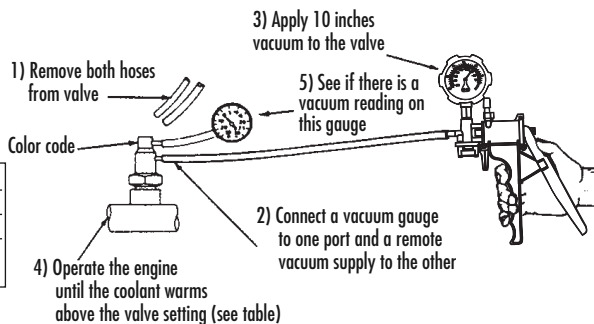

FIGURE 13: TESTING THE TWO-PORT PVS
1) Apply 10" Hg of vacuum to the bottom port of the valve with your vacuum pump and measure the results with a second vacuum gauge as shown in the accompanying illustration (FIGURE 13).